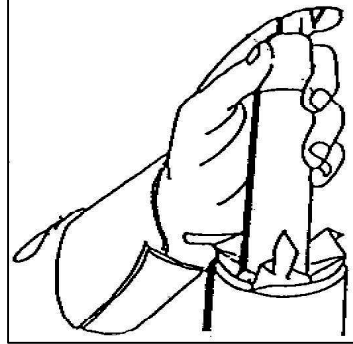

Figure B2.2
- 3.3.5.1. For small diameter pipes, simply stuff water soluble paper/water soluble tissue paper into each section to be joined (Refer Figure B2.2).